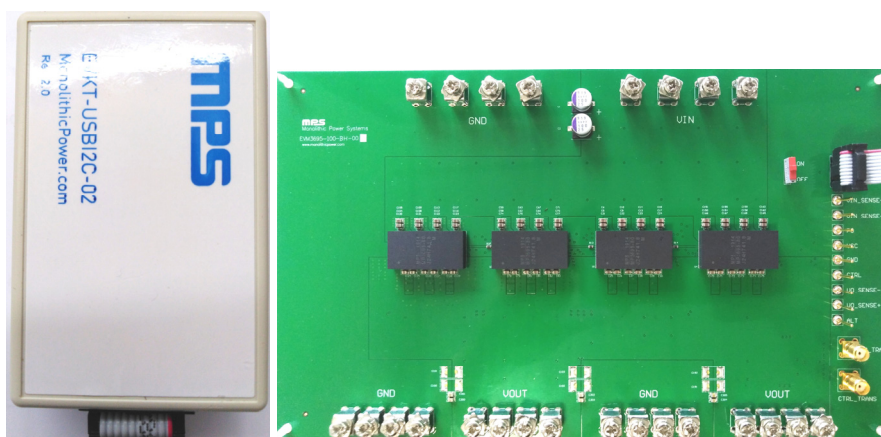

Figure 3: Connecting the I²C Communication Interface
2. Connect the EVKT-USB2C-02 to the PC using the USB cable (see Figure 3).